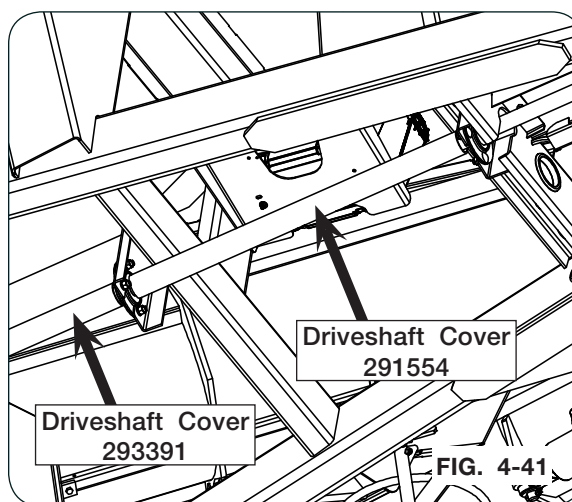

FIG. 4-41
8. Assemble new 26" PVC driveshaft cover (293391) between bearings near the gearbox, and new 36" PVC driveshaft cover (291554) between bearings behind the hitch driveline cover. (FIG. 4-41)
9. Slide the hitch end of the driveshaft, bearing and hitch driveline cover into the bearing near hitch of the cart. (FIG. 4-41)